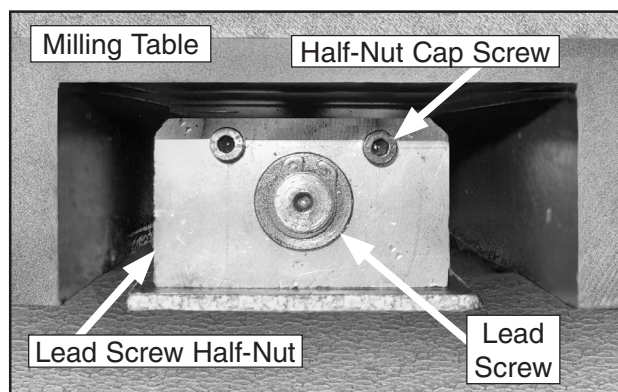

Figure 33. Handwheel backlash adjustment.
5. Locate the X-axis lead screw half-nut (see **Figure 33**), and adjust both cap screws until the handwheel has approximately 0.003" backlash as shown by the dial.